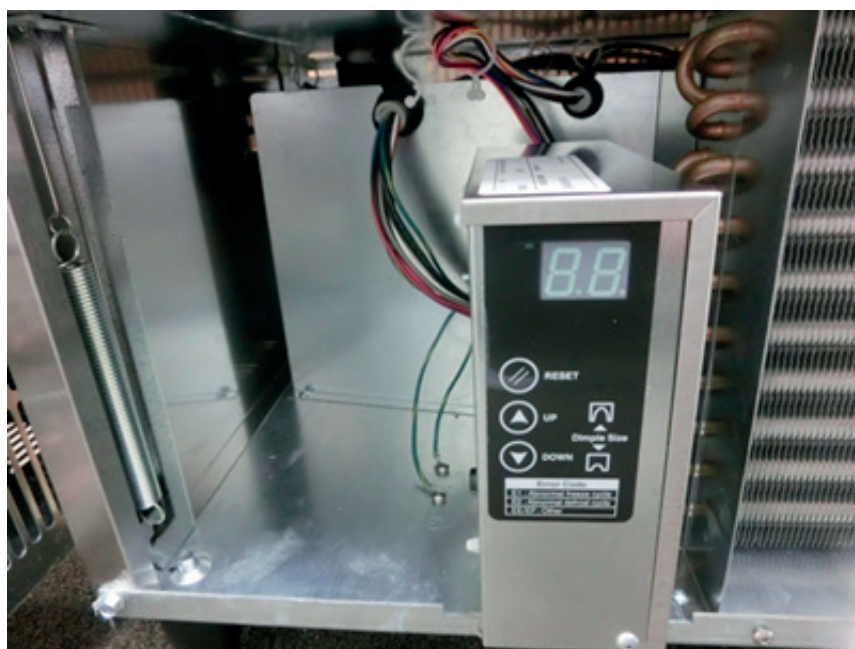

Fig. 36
11) Fix the control box and grommet as shown in Fig. 36.